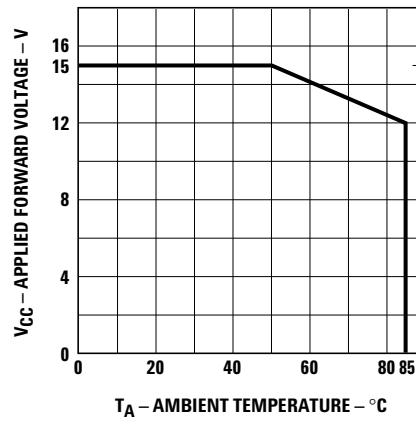

Figure 4. Maximum allowed applied forward voltage vs. ambient temperature $R_{\theta_{JA}} = 175^{\circ}\text{C}/\text{W}$. 12 volt devices.
3. Derate from T_A = 50°C at 0.086 V/°C, see Figure 4.